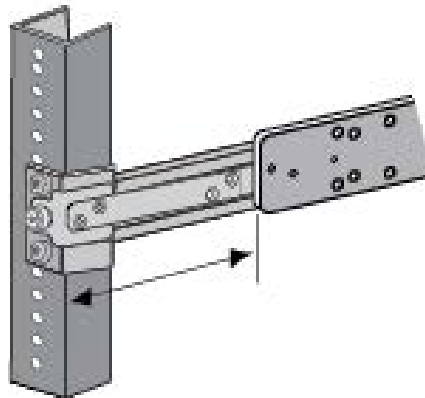

Figure 55. Verifying the Length of the Extension Bracket
5. Measure the distance from the front of the equipment rack to the front of the inner rail. Refer to Figure 55. This should approximately match the value you measured in “Measuring the Extension Bracket Lengths” on page 152.